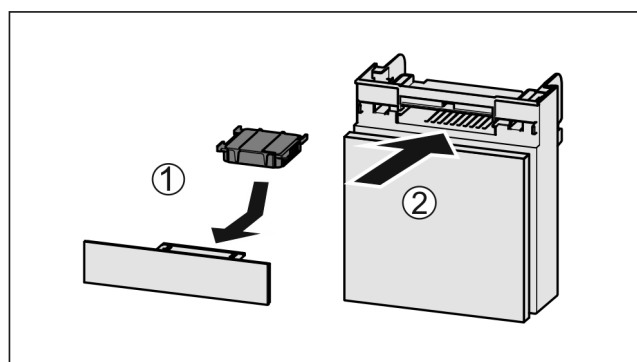

Fig. 51
- Insert the carbon filter as shown in the diagram Fig. 51 (1).
- Push the compartment in Fig. 51 (2).